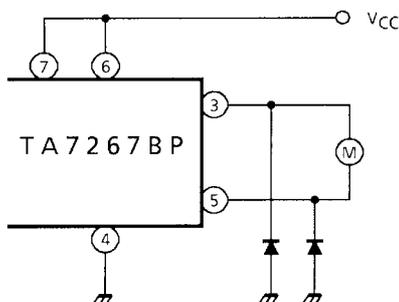

Fig. 4
(3) Additional diode
- i) If the braking operation is so loose, connect a additional diode between each output to GND. (See Fig.4)